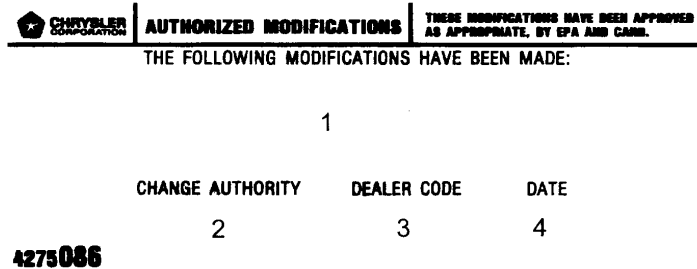

FIGURE 2
- 8. Type the necessary information on the "Authorized Modification Label" p/n 04275086 and attach the label near the VECI label (Figure 2).